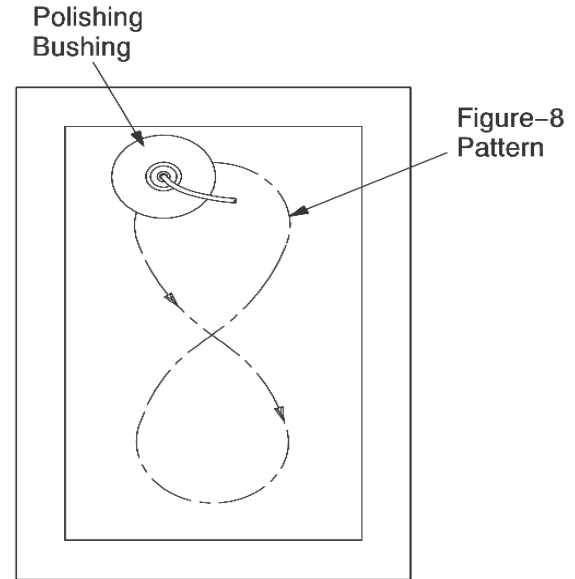

Figure 9
4. Hold the ferrule assembly and rest the tips of your index finger, middle finger, and thumb on the top of the polishing bushing. Starting with very light pressure, polish the tip of the fiber in a figure-8 pattern. Refer to Figure 9. Polish the fiber until the epoxy turns a very light yellow.